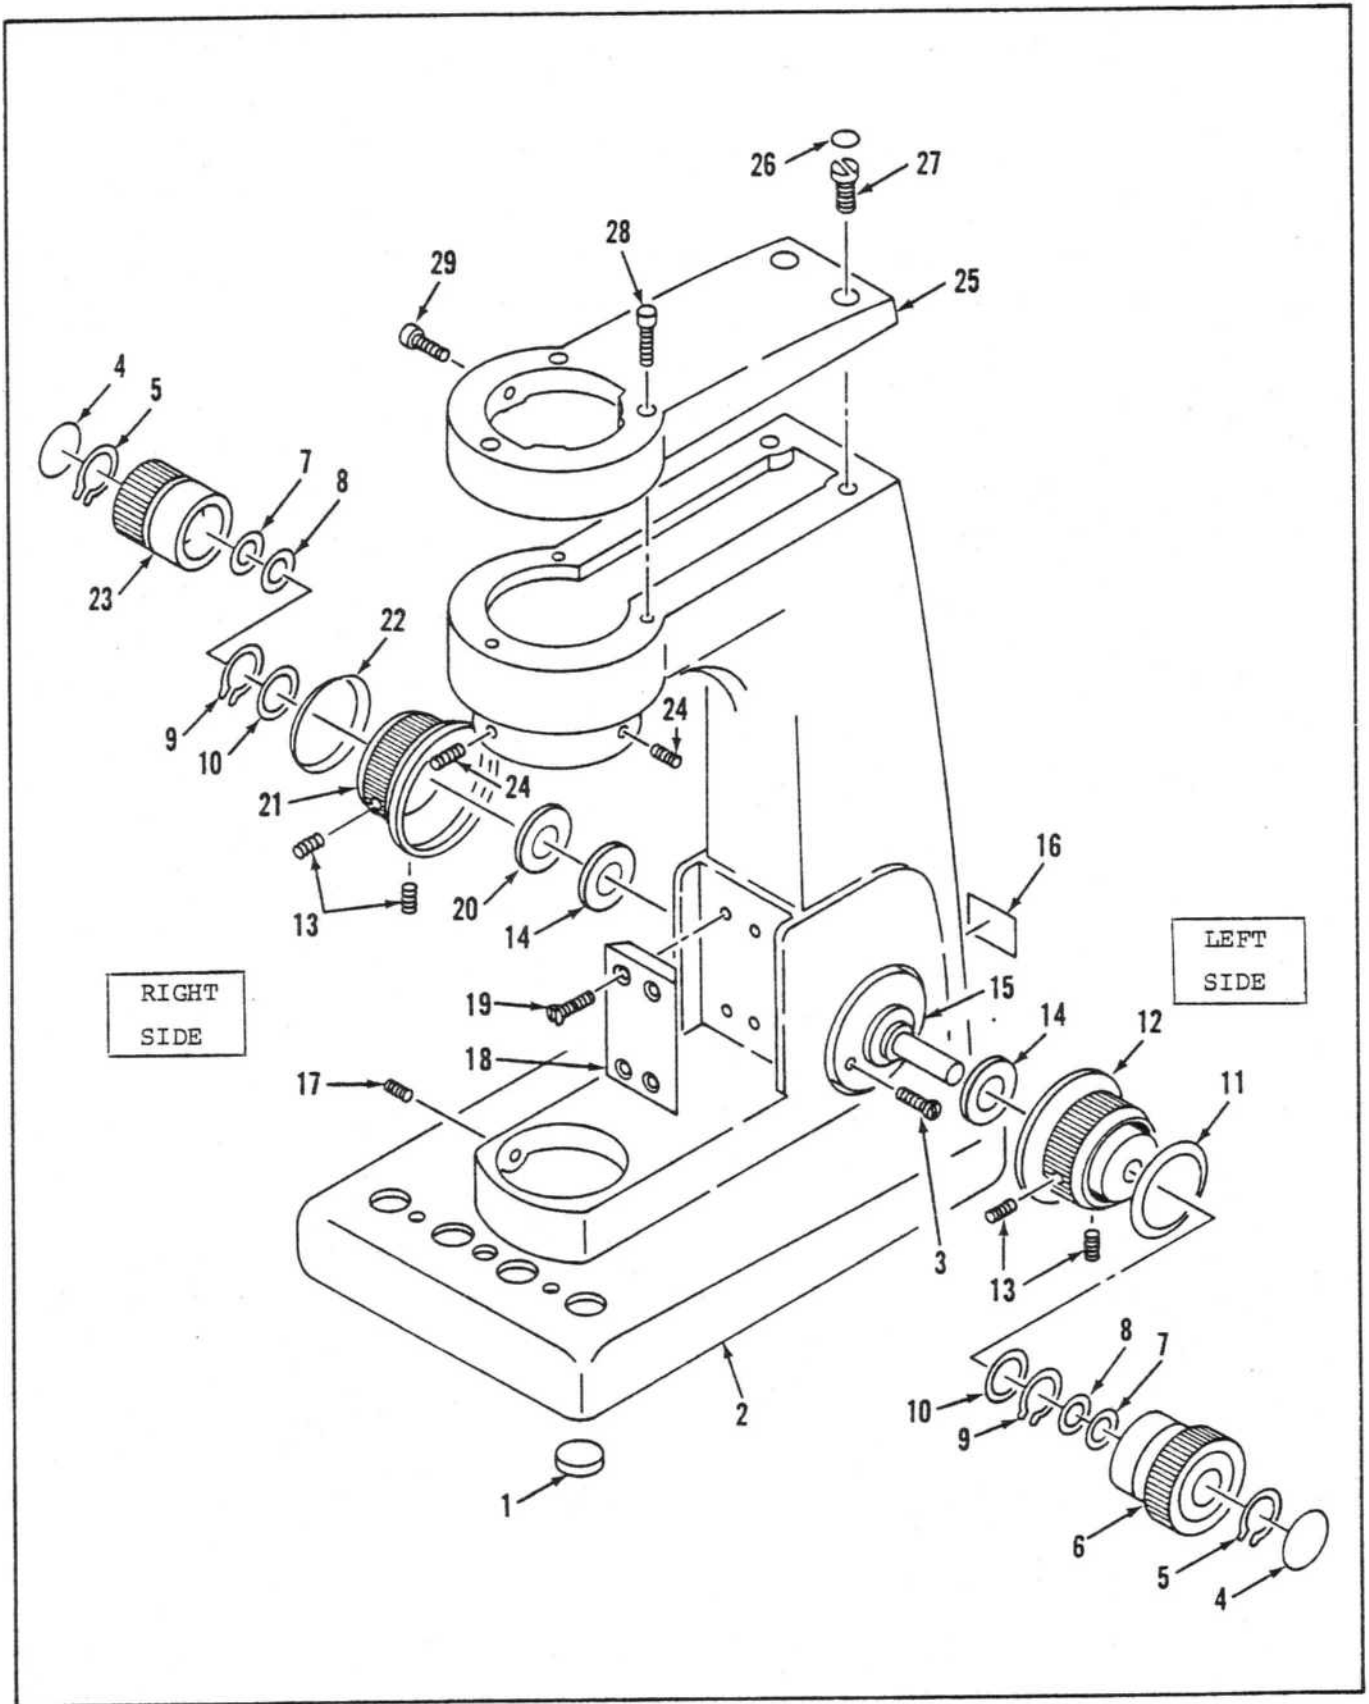

Figure 26 The 110 Stand
8.1.1 Removal of the Coarse & Fine Adjustment Assembly. (See Figure 26)